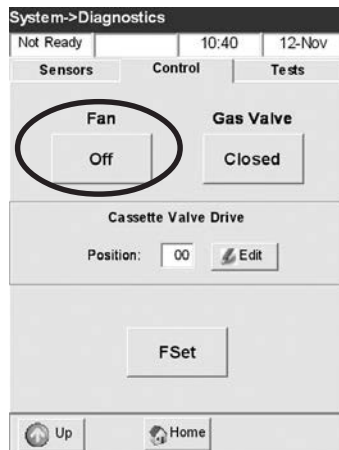

Fig. 7-8 Cooling Fan
- Press the **<On/Off>** button under **<Fan>** to start the test (Fig. 7-8).